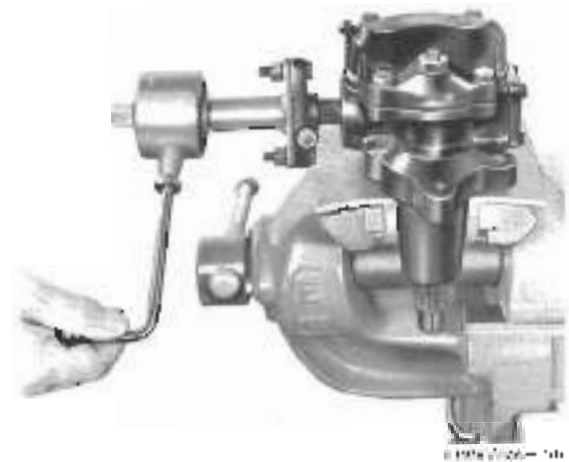

Fig. 9-24. Torque gauge installed on worm spindle.
14. Install the torque gauge as shown in Fig. 9-24. Then turn the steering away from its centerpoint (See 9.10 Locating Steering Centerpoint).